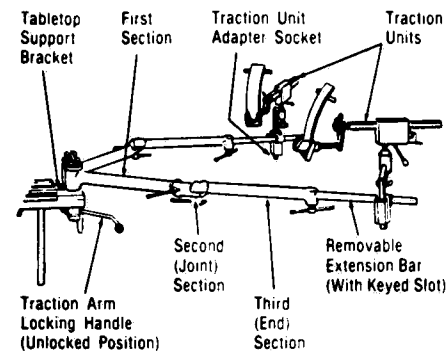

Figure 2-3. TRACTION ARMS.
1. Position Traction Arms (See Figure 2-3).